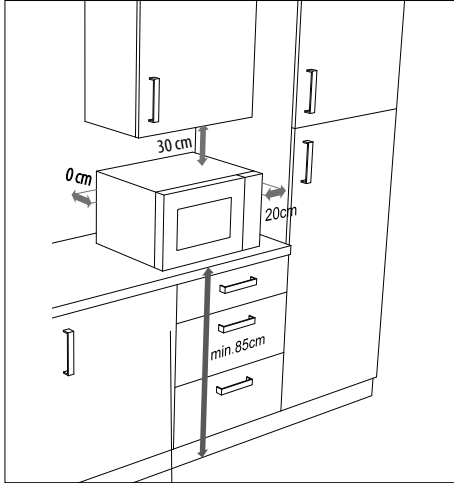

Fig. 4 – Appliance clearance
- ▶ The distances shown must be maintained to ensure adequate ventilation (**see Fig. 4**). The spacer at the back of the appliance must touch the wall. It ensures that the correct clearance is maintained when positioning the microwave.